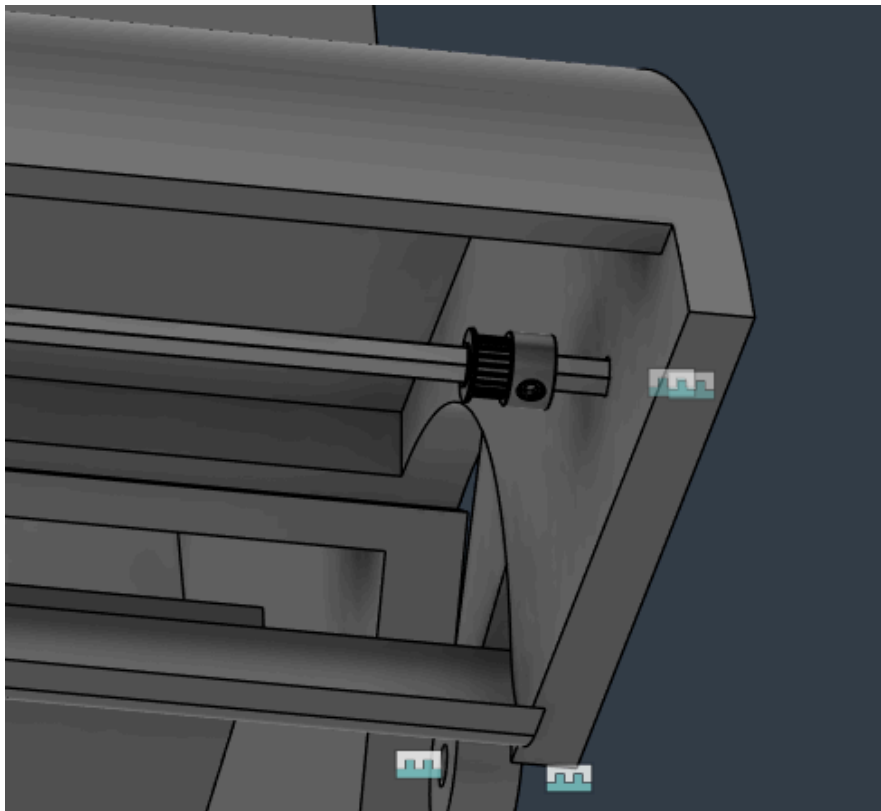

Figure G.5: 20-tooth pulley and belt attached
3. Install the 8 mm 20-tooth pulley onto the axle near the inner wall, add the pulley and the belt, and position the pulley 0.45 inches from the inner wall with the set screw facing the wall and securely tighten, as shown in Figure G.5.